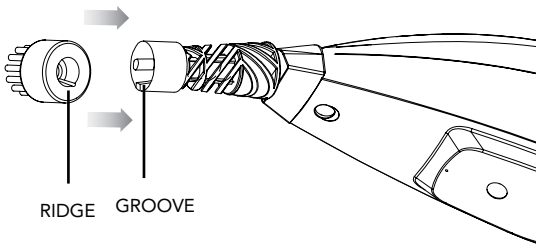

FIGURE 5
1. Align Utility Brush by lining up the ridge on the inside of the Brush with the groove on Jet Nozzle as shown (FIGURE 5), and press it firmly on as far as it will go.